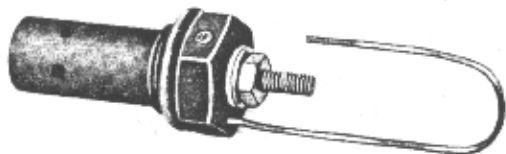

Figure 7—Igniter
1. The igniter (Figure 7), which screws into the igniter well, is a resistance coil of the "glow plug" type that heats red hot when current is passed through it.